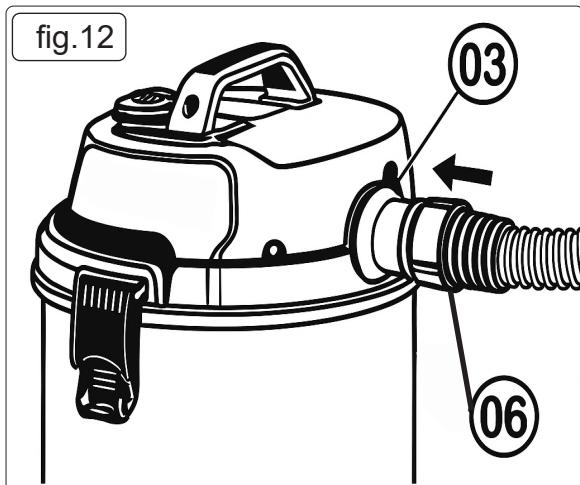

fig.12
6.6. Attach the hose to the rear outlet for blowing operation (see fig.12).